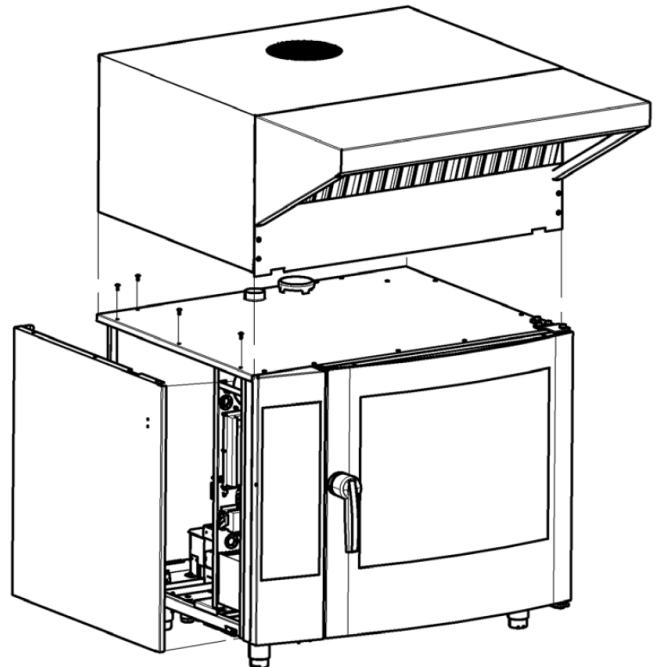

Figure 1: 0610 hood for appliance size 611
- Remove the side cover of the appliance onto which the hood is to be installed. Unscrew the bolts of the cover using a screwdriver and a No. 8 spanner, see fig. 1.